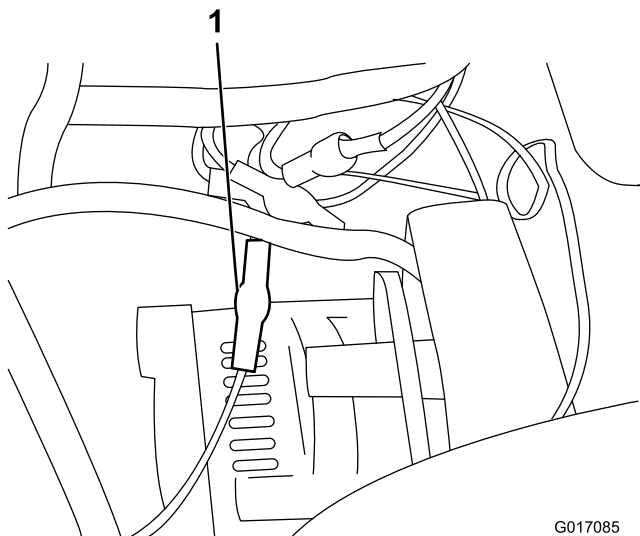

Figure 3
9. Connect the wire to one of the available terminals from the fuse block (Figure 3).